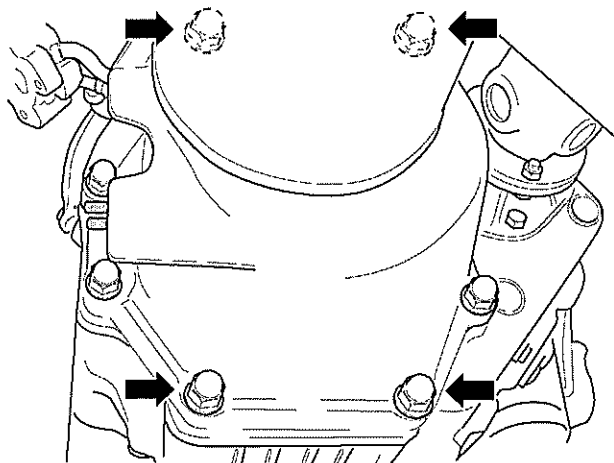

Fig 4 Chassis support tube
- 4.11 Place suitable container under distance piece. Remove cap nuts, then anchor bolts from support tube flange (see Fig 4).